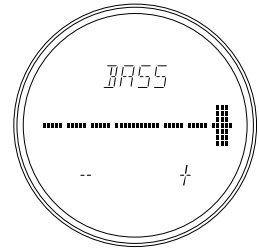

Fig.2
2. Within approx. 5 seconds, turn the **JOG** control **Ⓢ** to the left to decrease, or to the right to increase step by step. You can both increase and decrease the tone for 7 step. (Fig.2) To cancel the tone adjustment operation, press the **ENTER** button **Ⓢ**.